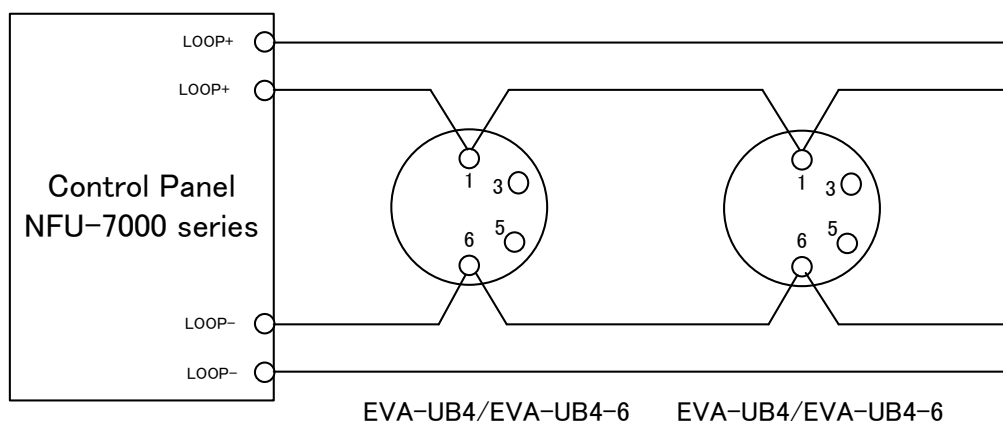
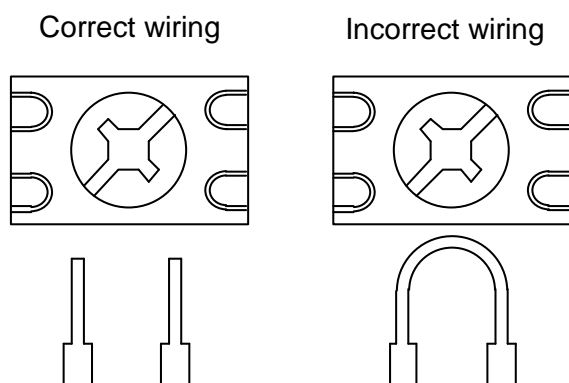

Figure 13: Wiring diagram for EVA-UB4 and EVA-UB4-6
Figure 14: Correct and incorrect wiring method
1. Pass the field wiring through the rear center cable opening in the mounting base. Install the base to the electrical box with screws via the base mounting holes. Connect the field wiring to the base terminals, as detailed in Figure 13. Do not use looped wire under terminals (See Figure 14).